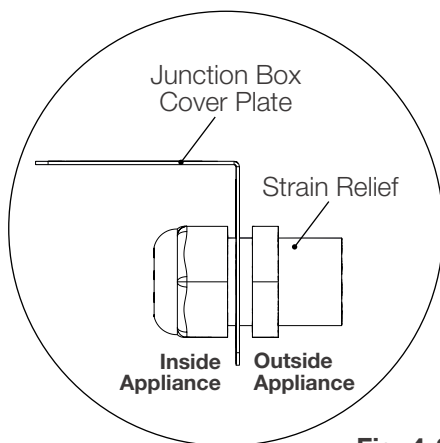

Fig. 4-3
- Install the strain relief (supplied) into the new cover plate (**Fig. 4-3**). Feed wires through the strain relief.